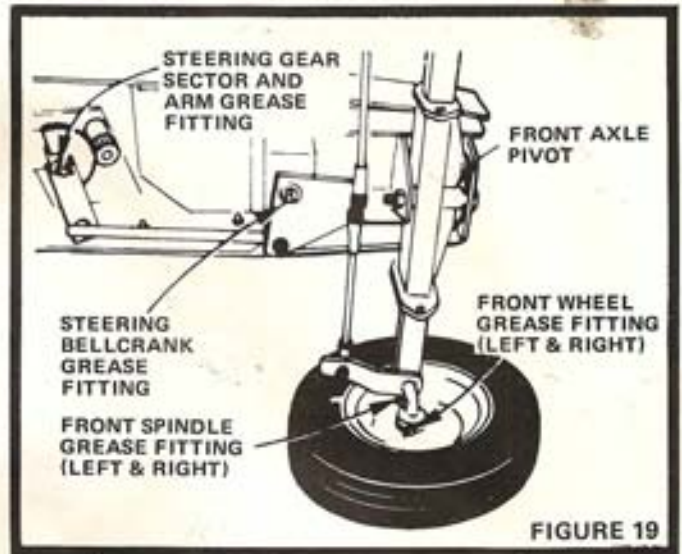

FIGURE 19
There are six Grease Fittings on your Tractor (Fig. 19). Using a Grease Gun, give each Grease Fitting two shots of Extreme Pressure Lubricating Grease Amdex No. 1 (available through your Sears store).
- b. Front Axle Pivot (Fig. 19).